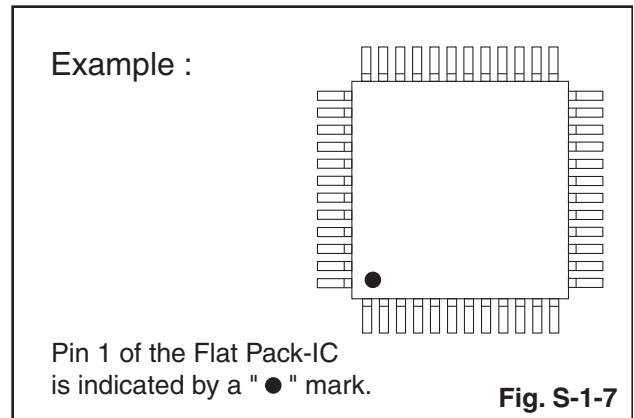
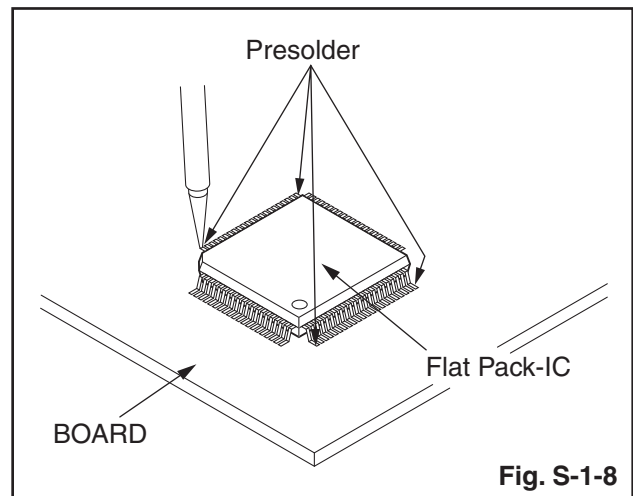

Fig. S-1-7
Fig. S-1-8
2. The "●" mark on the flat pack-IC indicates pin 1. (See Fig. S-1-7.) Be sure this mark matches the pin 1 on the BOARD when positioning for installation. Then presolder the four corners of the flat pack-IC. (See Fig. S-1-8.)